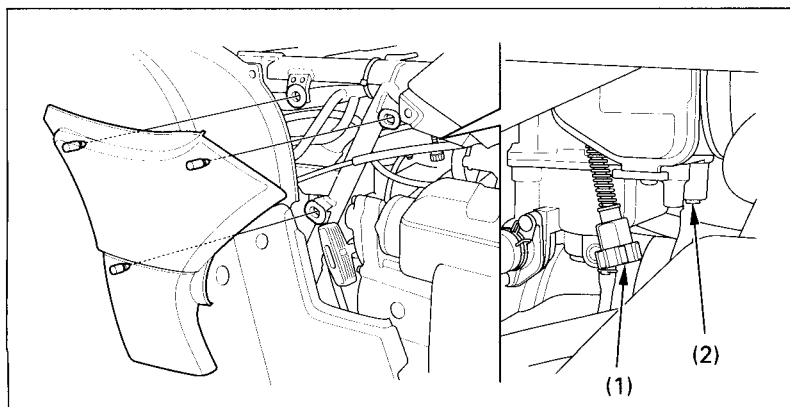

Fig. 4-10 (1) Throttle stop screw
Before adjusting the idle speed and air-fuel mixture, unsnap the right side cover. (Fig 4-10)
2. Adjust idle speed by turning the throttle stop screw (Fig. 4-10).